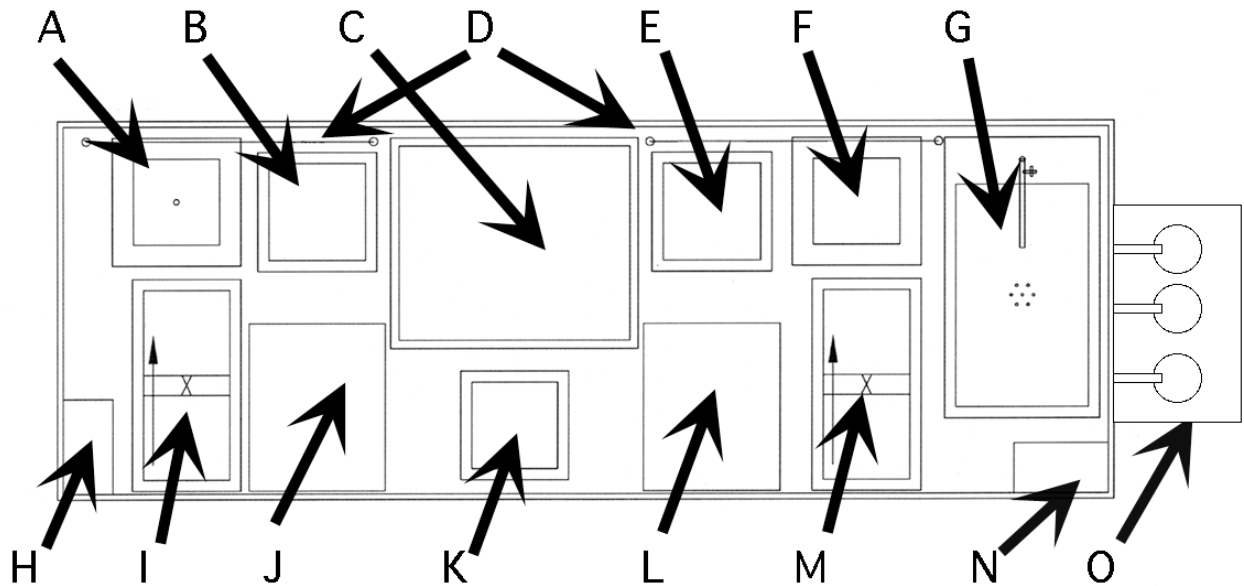
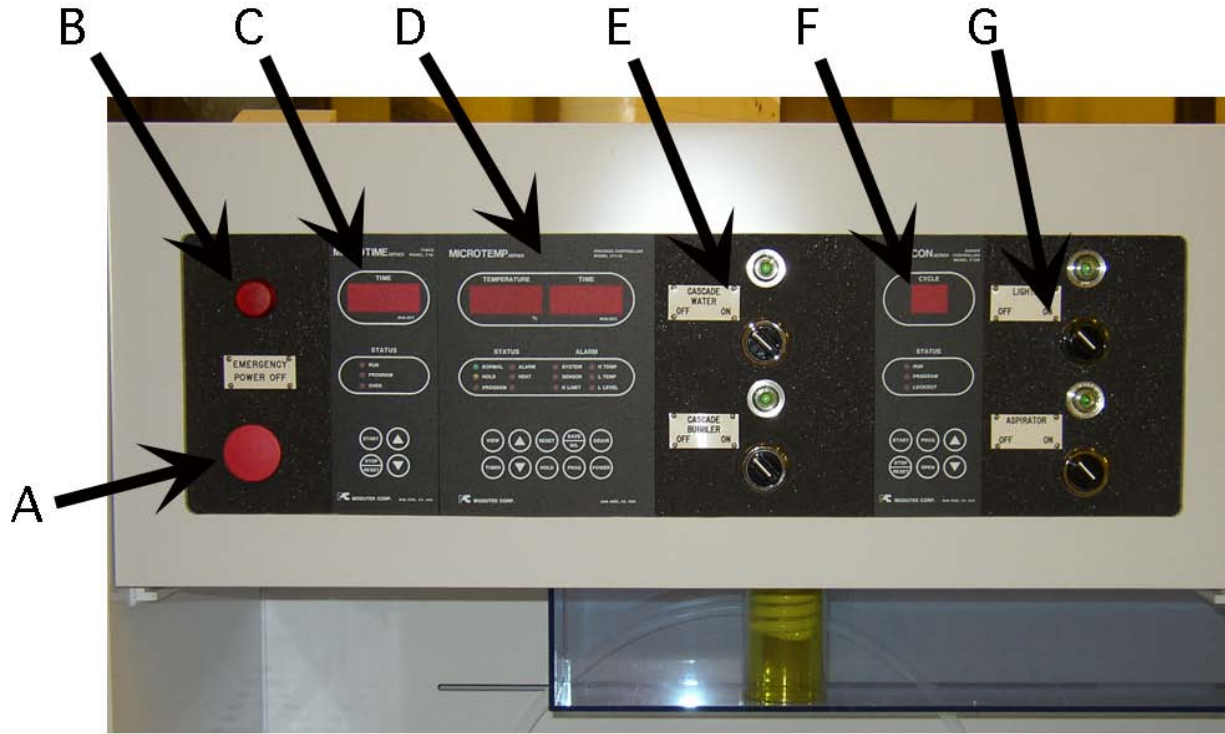
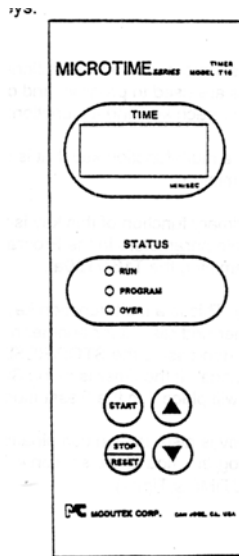
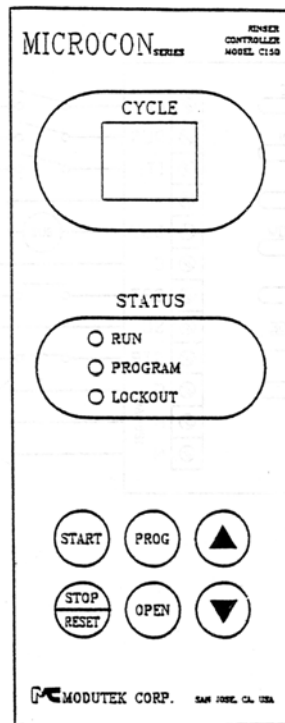

Fig 1. Polypro Wet Bench for Acid Processing
Fig 2 Left Side Headcase and Controls for polypro acid sink
Fig 6 Stand Alone Timers
Fig 7 Modutek C15 Dump Rinse Controllers
The polypro wet bench located in the Nanolab Yellow Room, is designated for acid and base cleaning and etching. It is not intended for solvent cleans, HMDS or work with flammable chemicals. Use the stainless steel solvent sink for these operations. Observe all warnings and cautions when using this bench. The deck layout is shown in Fig 1 and is described below:
5.1 Left Side Headcase (refer to Fig 2).
- D** Temperature controller for heated tank (A in Fig 1). See separate section for its operation. An integrated timer will shut off the timer after 4 hours. Additionally a level sensor will shut down the power if the liquid level is too low. The tank may also be drained using the controller. **ALWAYS TURN OFF POWER WHEN FINISHED PROCESSING.**
- E** Top is pneumatic cascade water switch (clockwise for on) and its indicator light above it. Bottom is a pneumatic bubbler switch with its indicator light above it. These controls are associated with the rinser/bubbler labeled I in Fig 1. **Turn off DI water as soon as you finish.**
- F** Dump rinser controller for item J in Fig 1 pre-programmed for 5 dump cycles. See separate section for controller operation.
- G** Light switch (top): Turns on yellow lights for entire fume hood. Turn lights off when not in use. Aspirator (bottom) (D in Fig 1): To be used only in emergency or for aspirating water eg rinsing tanks.
- B** Hot plate timer (C in Fig 1) automatically shuts off after 4 hours. Controls time only, temperature is controlled directly at hot plate. Stirrer is also controlled directly at hot plate. **CAUTION: KEEP POLYPRO COVER OFF WHEN USING HOT PLATE AND TURN OFF HOT PLATE WHEN FINISHED.**
- E** 2nd dump rinse controller for rinser L in Fig 1. Dump rinser is pre-programmed for 5 cycles and can accommodate up to one 6 inch wafer cassette.
- A** Right aspirator (D in Fig 1): To be used only in emergency or for aspirating water.
- B** Temperature controller for heated tank (F in Fig 1). See separate section for its operation. An integrated timer will shut off the timer after 4 hours. Additionally a level sensor will shut down the power if the liquid level is too low. The tank may also be drained using the controller. **ALWAYS TURN OFF POWER WHEN FINISHED PROCESSING. Fill out the log book after each use and whenever the chemical is changed.**
- C** Cascade water switch and indicator (top) and bubbler switch and indicator (bottom). Used to control cascade rinse, M in Fig 1. **Turn off DI water as soon as you finish.**
The Modutek C1115a is used only to control the heated baths (A & F in Fig 1) in the acid wet bench. Refer to Fig 5 for the various control buttons.
- 1 Verify the drain valves are closed and that the bath is filled to the upper white region with the correct chemical: piranha or organic clean in bath A or inorganic clean (eg HCl/H₂O₂) in bath F (Fig 1).
There are 3 stand-alone timers (C & D in Figs 2 & 3). All are Modutek T16a in the acid wet bench. Refer to Fig 6 below.
Dump rinsers J & L in Fig 1 are controlled by dump rinse controllers F & E in Figs 2 & 3 and its operation is described below (refer to Fig 7).